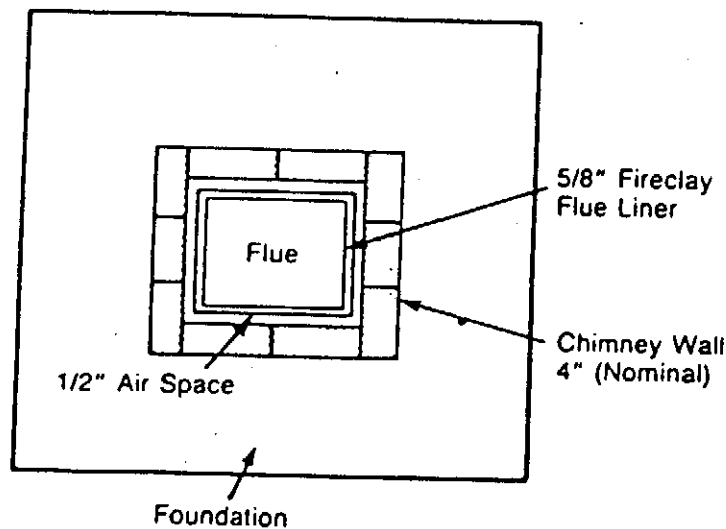

Fig. 9, Masonry Chimney Construction
2. The chimney must have a fire clay flue liner (or equivalent) with a minimum thickness of 5/8 inch and must be installed with refractory mortar. There must be at least 1/2-inch air space between the flue liner and the chimney wall (Fig. 9). An equivalent liner might be a listed chimney liner system or other approved material.